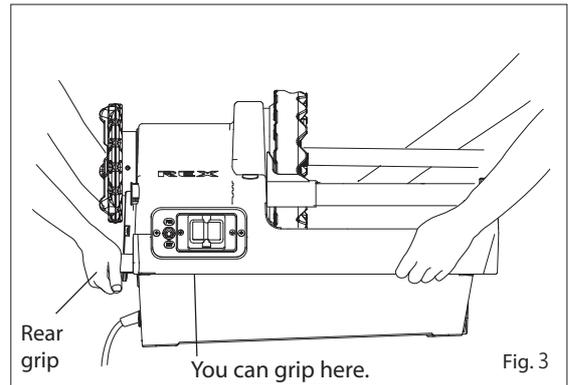

Fig. 3
1. Transportation (Fig. 3)
When transporting or moving the machine, be sure to hold it firmly using the hand positions shown in Fig. 3.